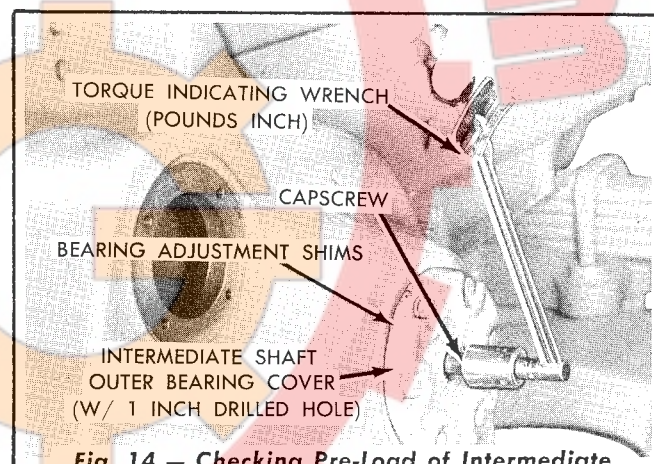

Fig. 14 — Checking Pre-Load of Intermediate Shaft Bearings
2. Lubricate the bearings with clean oil and insert the intermediate shaft (without the gears) into position in the housing, then install the outer bearing cup. Procure an extra outer bearing cover and drill a 1 inch hole through the center of the cover. Install the drilled cover using the original amount of bearing adjustment shims. Install a $\frac{5}{8}$ " NC capscrew into the end of the intermediate shaft through the hole in the cover so that a torque indicating wrench can be used to check the bearing pre-load as shown in Fig. 14.